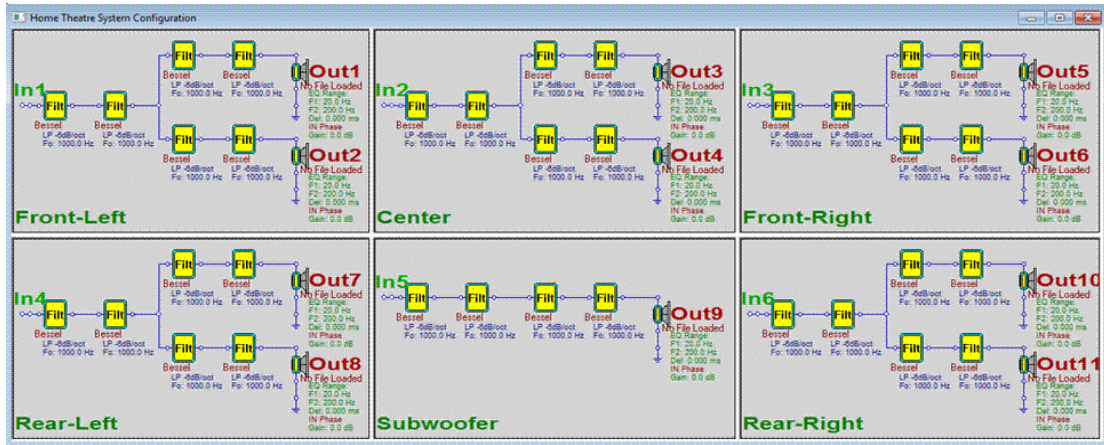

Figure 62. Home Theater 2 option.
- **Home Theater 2:** This option loads a 5.1 Home Theater system where all front and surround speakers are 2-ways with the addition of a subwoofer. This system requires use of multiple sound cards. Figure 62.